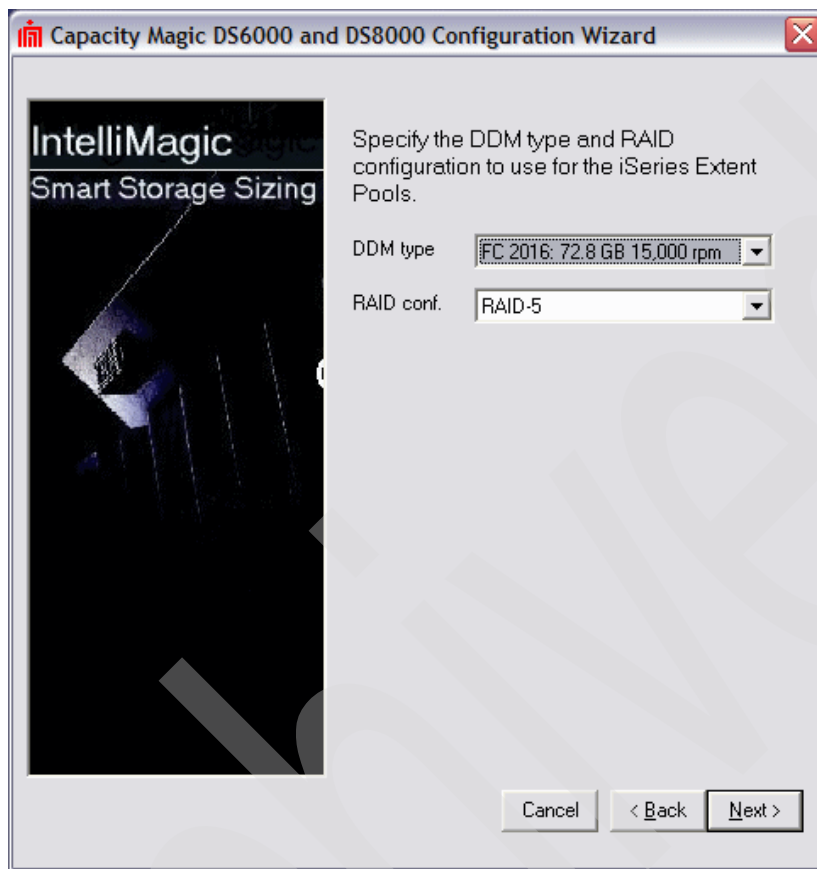

Figure 3-15 Specifying the DDM type and RAID type
- Specify the type of DDMs and the type of RAID protection. As shown in Figure 3-15, observe that 73 GB DDMs and RAID-5 are already inserted as the default. In our example, we leave the default values. Click **Next**.